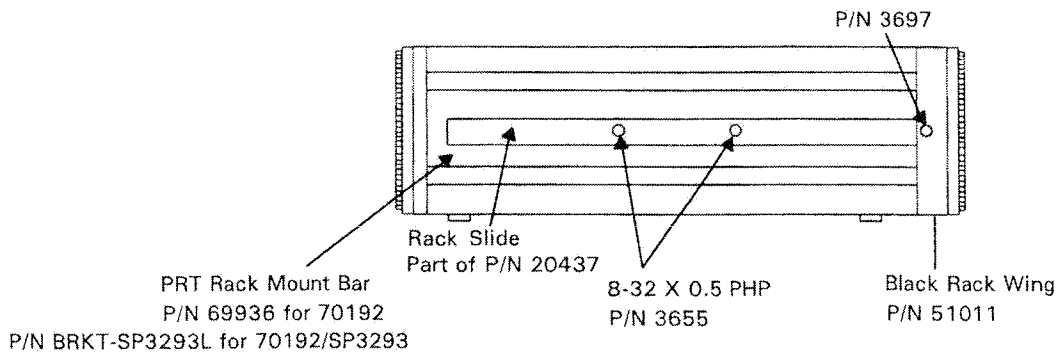

Figure 6-4 Mounting Rack Slide and Black Rack Wing
3. Remove the Inner Rack Slide from each of the Rack Mounts. Attach the Black Rack Wing and the rack slide to the PRT Rack Mount Bar. Refer to figure 6-4.